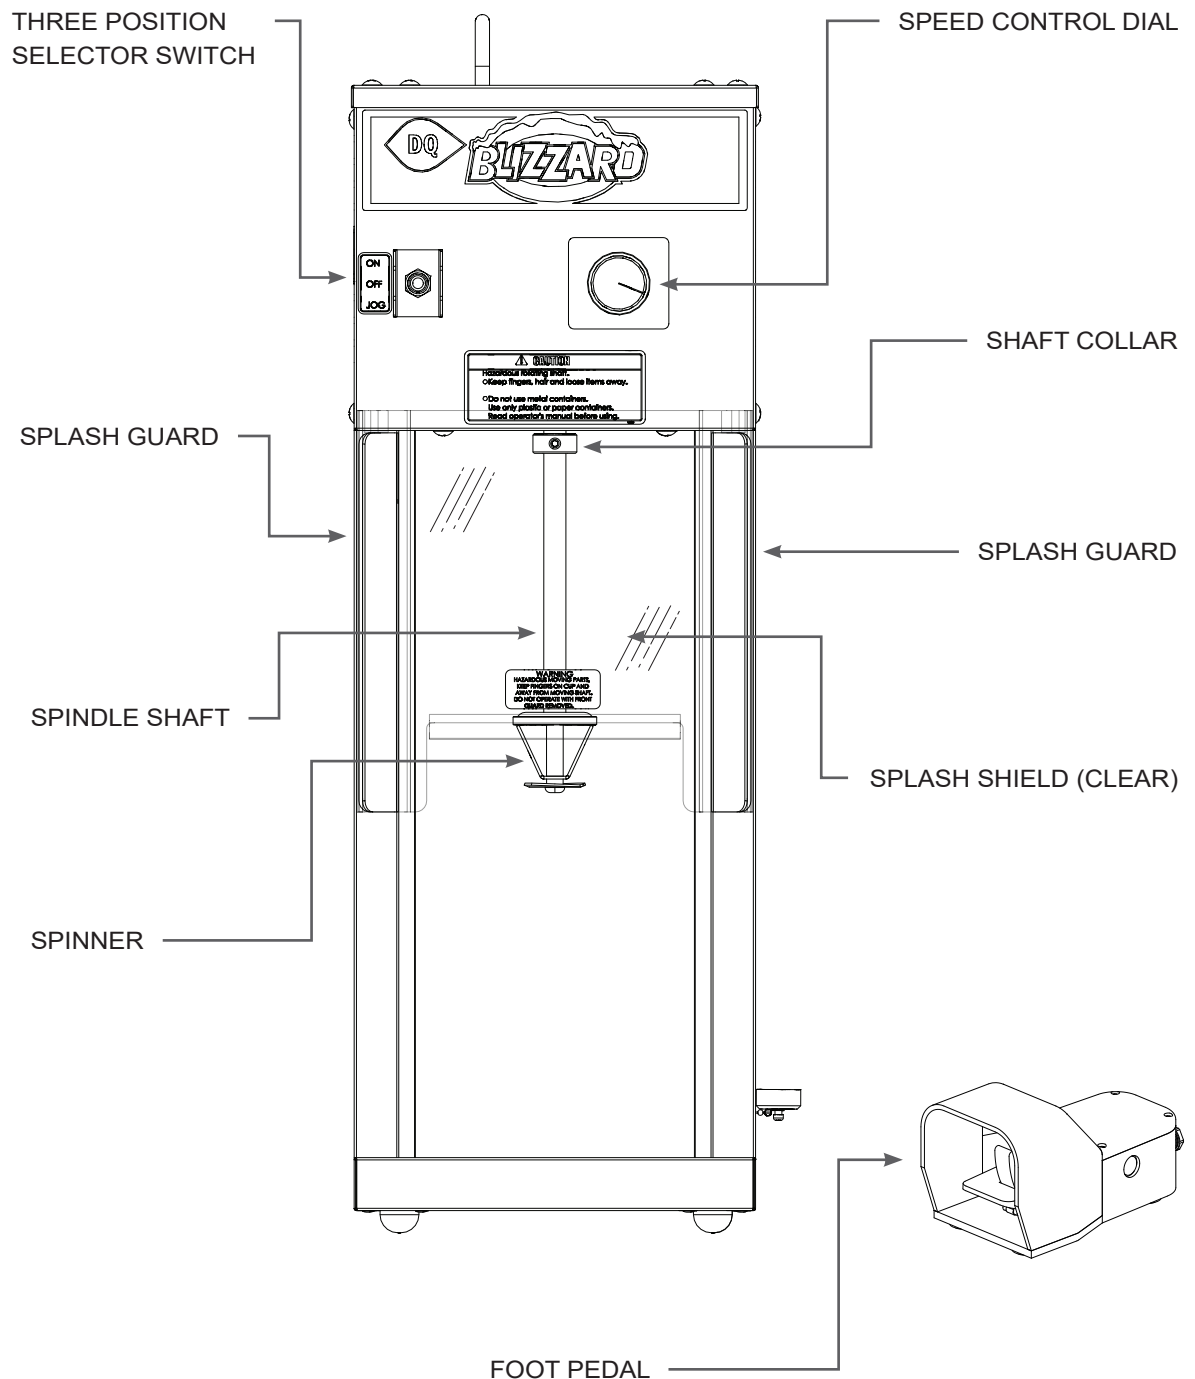

Figure 1. BLIZZARD® Machine Controls Front Side
1. This three-position toggle switch has a center "OFF" position with top and bottom power positions. (See Figure 1 for location of controls.)
1. This control adjusts the speed of the drive motor and spindle shaft. The machine is normally operated at a specific setting for the desired product. A lower speed is normally used when washing or rinsing the shaft with water. (See Figure 1.)
2. The lower speed helps prevent the water from splashing out of the cup. As a reference point for spindle shaft speed, remember that when the control dial is at zero (0), the spindle shaft should be turning slowly.